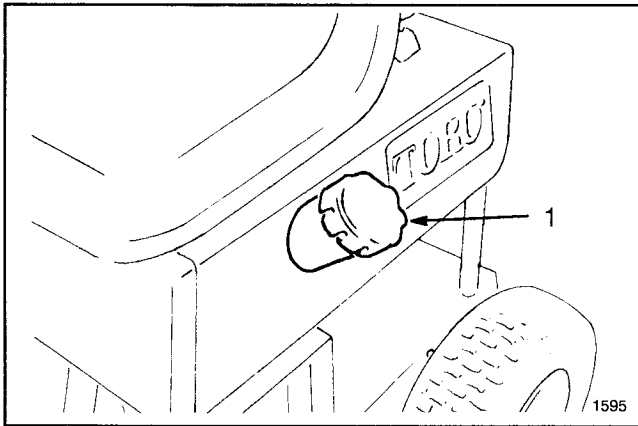

Figure 11
1. Clean around fuel tank cap so foreign matter cannot enter filler hole when cap is removed. Next, remove cap from fuel tank (Fig. 11).